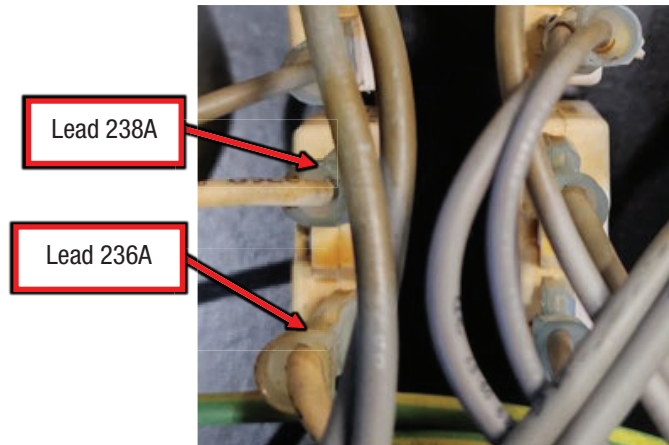

Figure F.2
A.2. Label and disconnect the following connections on CB7, refer to Figure F.2.